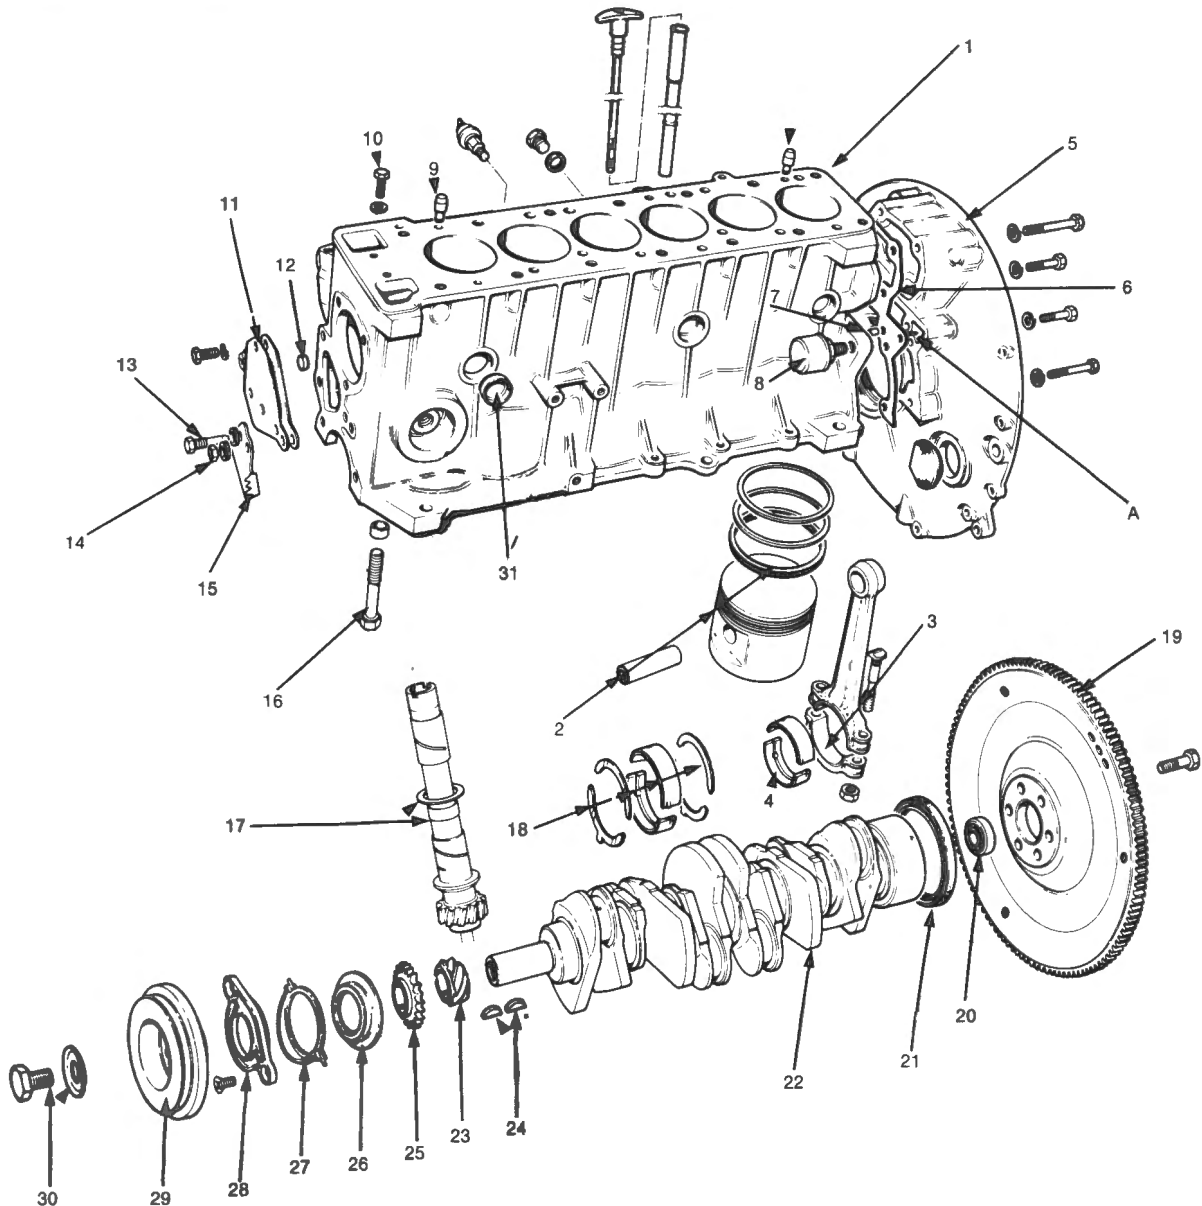

Fig. E-37
- 2 Check that the engine crankcase breather passage is clear. Ref. Fig. E-37.